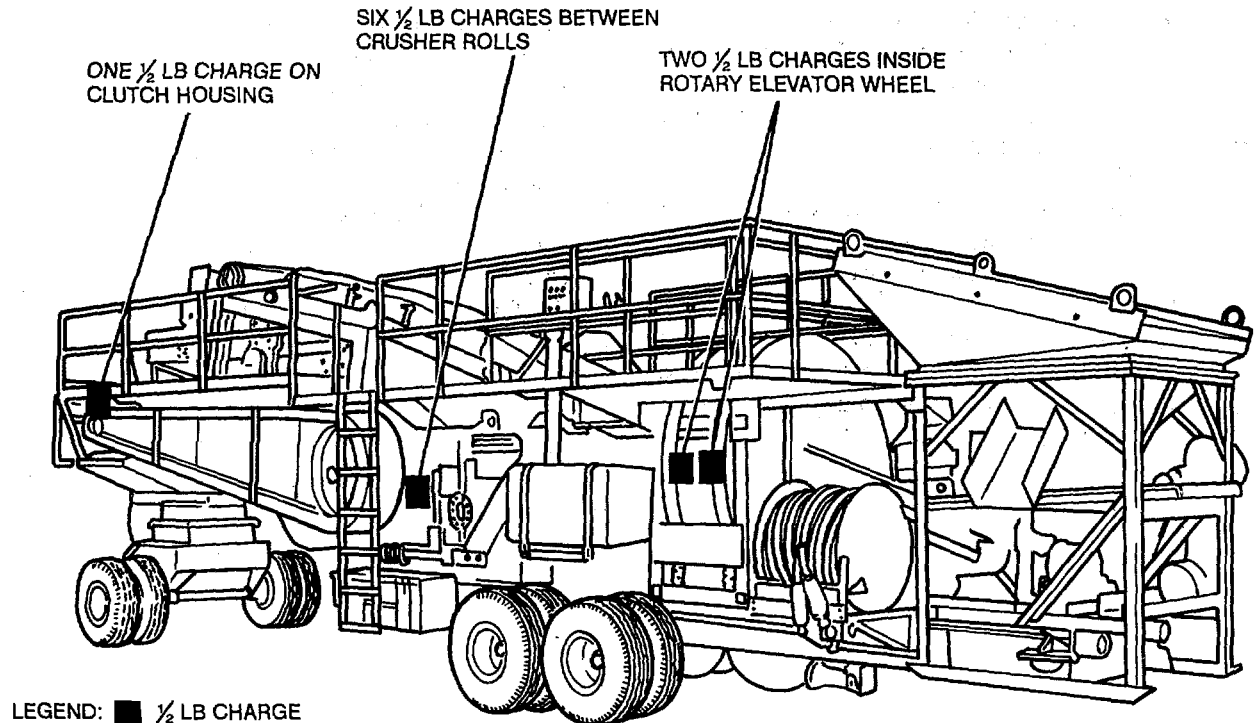

Figure 63. Placement of demolition charges, left side.
- (1) Drain the radiator and engine crankcase. Pour sand in the engine crankcase.
- (2) Disconnect the radiator fan and run the engine at full throttle.
a. *Explosives.* Place as many of the following charges shown in figures 63 and 64 as the situation permits and detonate them simultaneously with detonating cord and suitable detonator.